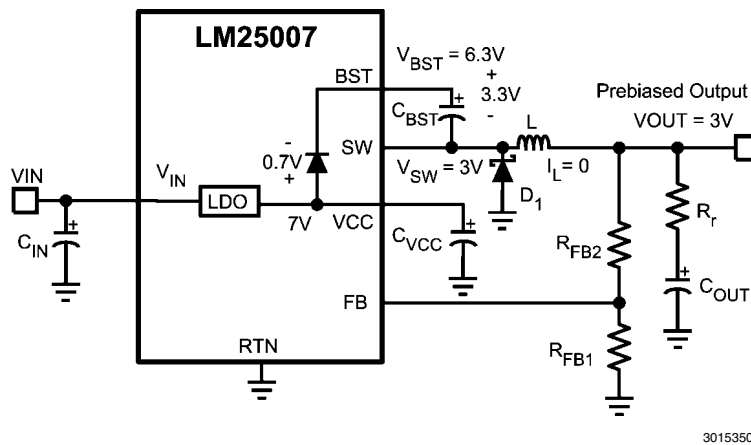
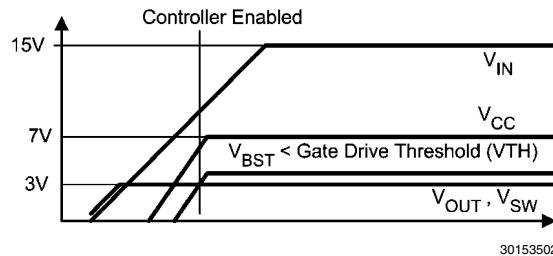

FIGURE 1. LM25007 Application with Prebiased Output
FIGURE 2. Startup with Prebiased Output
see Figure 1. This voltage is usually referred to as prebias. Since, at startup, there is no current in the inductor (L), the prebias voltage at the output appears at the switch node. If this prebias voltage is high such that the boot capacitor voltage ( $V_{BST} = V_{CC} - V_{SW}$ ) is lower than the threshold voltage ( $V_{TH}$ ) of high side gate, the high side switch fails to turn 'on' and the converter fails to startup see Figure 2. This condition persists until prebias is removed. A prebias is often caused by some leakage path in downstream circuits, e.g., a logic circuit or FPGA with a pin pulled high, or leftover charge from a previous power down.